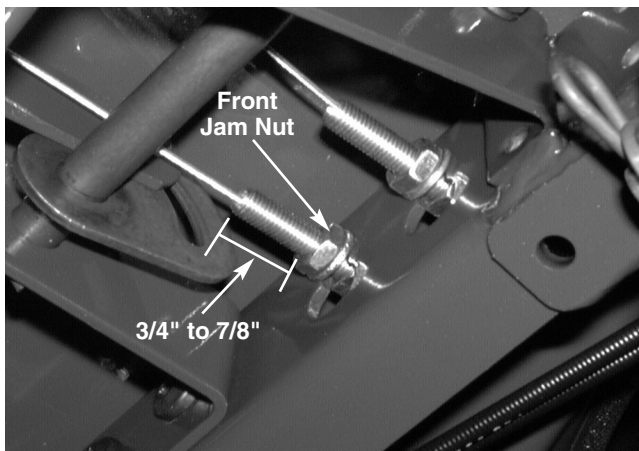

FIGURE 5.
- 16). By hand, tighten the front jam nut until the threaded cable end is exposed 3/4 to 7/8" past the front face of the front jam nut. See Figure 5.